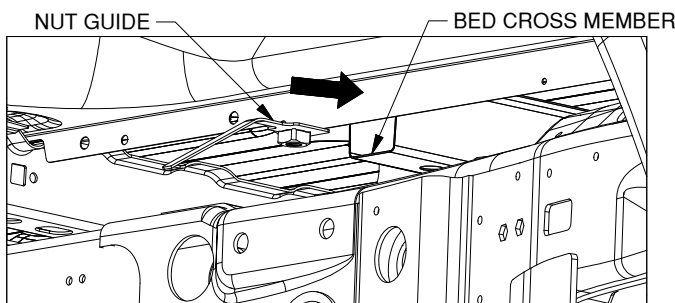

Figure D5: View looking in passenger side wheel well.
6. **Install passenger side forward bolt.** The nut guide will need to be positioned under the passenger side forward hole location with the nut on the bottom side of the guide. Insert the nut guide into the bed cross member, see Figure D5. Hold the nut under the hole while a 1/2" x 2" hex head bolt with a 1/2" lock washer is passed down through the forward mounting hole and threaded into the nut guide by another person.